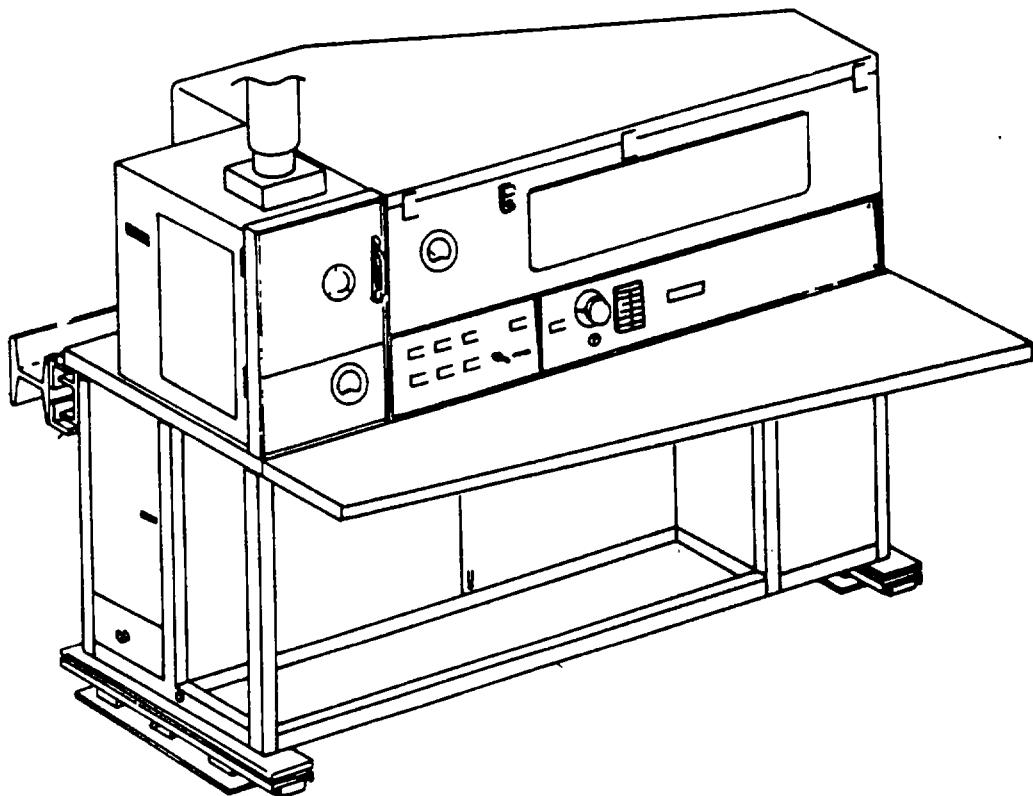

Figure 1-8. Fluid Analysis Spectrometer
a. *The fluid analysis spectrometer display (A/E35U-3A) (Figure 1-8) is a 1-meter emission spectrometer with an LED liquid readout specifically designed for sample oil analysis. It has a console-type equipment cabinet permitting the operator to carry out the routine procedures of analysis while seated at one location. Except for the main power circuit breaker control, all operating controls are conveniently within the reach of the operator while in a seated position. Panels have been designed to permit quick removal and provide access for performing required maintenance. The spectrometer equipment includes personnel safety features such as safety interlocks, venting of noxious fumes, and protection from ultraviolet rays. Equipment protective features include circuit breakers, fuse, interlocks, and venting. Electromagnetic interference is controlled by RFI filters and proper grounding of all electrical components within the instrument, while critical items have been individually shielded. The sample excitation chamber is interlocked to protect the operator from high intensity ultraviolet light, shock from the carbon rod/disk are (22,000 volts peak), and exposure to noxious or flammable fumes while sample analysis is in progress. During normal operation, the carbon arc will totally "burn" the sample, leaving no residual flammable fumes or vapors. The chamber venting is adequate to purge the chamber of all noxious or flammable/combustible fumes. The spectrometer is a preventive maintenance tool used to determine the type and amount of wearmetals in lubrication oil samples of engines/transmissions and in fluids of hydraulic equipment. The spectrometer is capable of detecting and measuring the concentration of the following elements:*